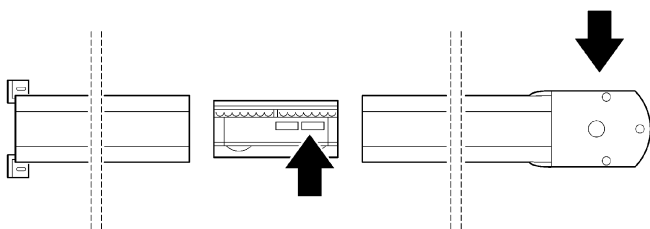

Figure 16
**4** Turn the lower carriage as in fig. 16.